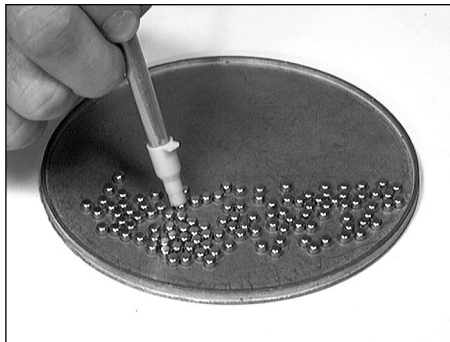

FIG 151
6. **FIG 151** Collect the primers using the plastic tip end of the primer pickup tube. Make sure all primers are shiny side up, and fill the tube.